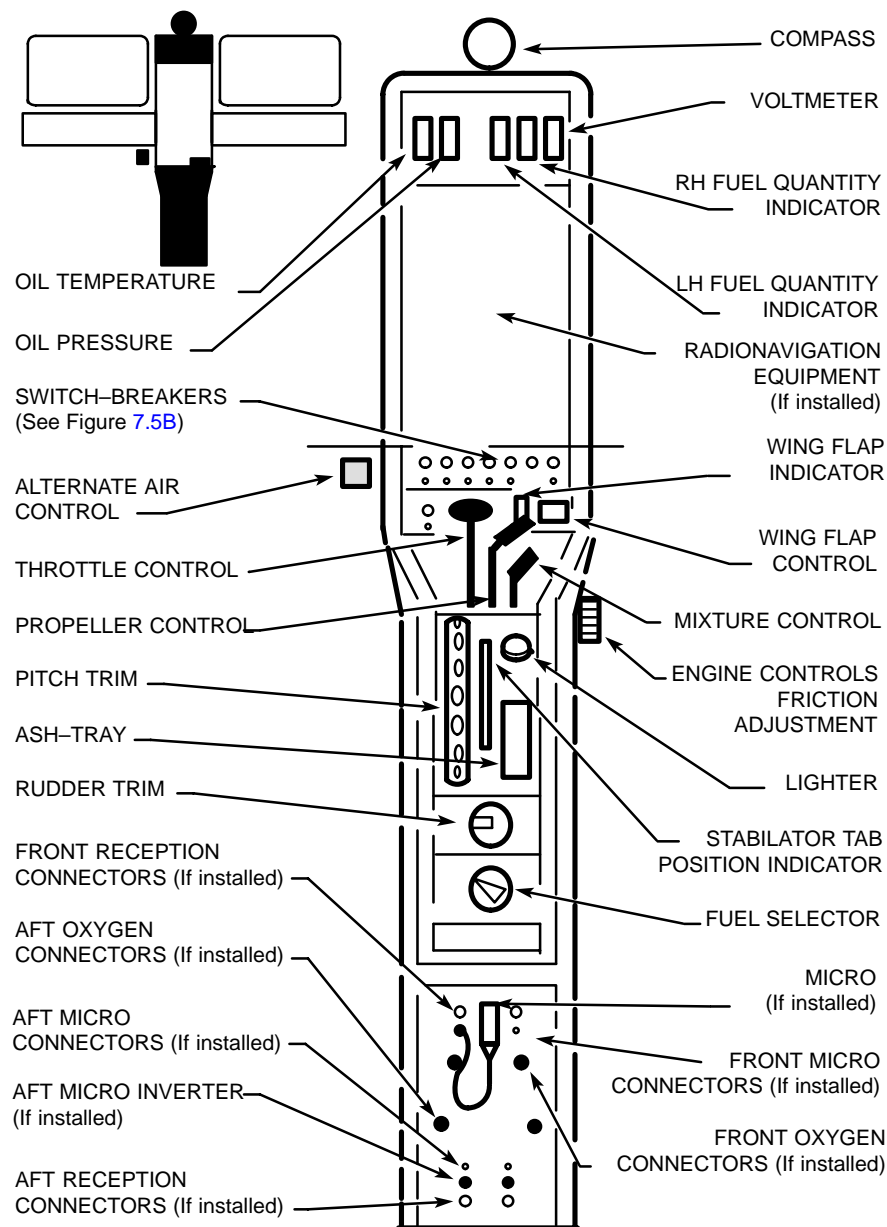

Figure 7.2 – EXAMPLE OF CONSOLE AND PEDESTAL
**The central console** (see Figure 7.2) contains in the upper edge, the engine monitoring cluster, then radio-navigation equipment vertically mounted to console lower edge.
**The central pedestal** (see Figure 7.2) contains fore to aft :
The switch lever is moved up or down in a slotted panel with mechanical stops at "retracted" ( $0^{\circ}$ ) ; "take-off" ( $10^{\circ}$ ) and "landing" ( $40^{\circ}$ ) positions (see Figure 7.2). An indicator located near the control provides various flaps positions.